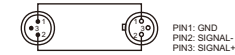

Fig.5
(7) Signal cable and the connector (Fig. 5):